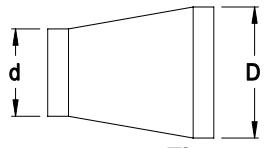

Figure 3
* Reducer or increaser ratio (d/D) small diameter divided by the larger diameter. (See Figure 3)